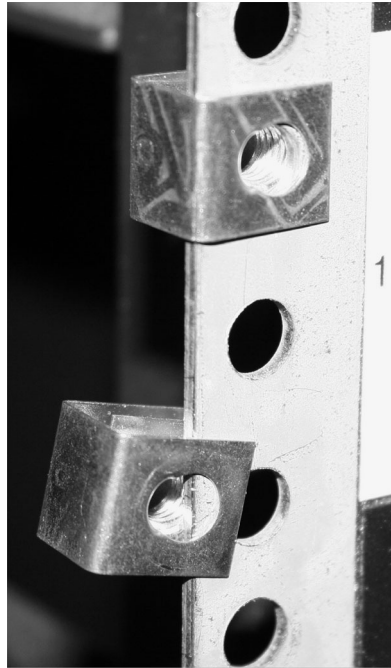

Figure 6. Positioning the clips
2. Position the four “C” clips in the rack's mounting bar, as shown in Figure 6 on page 15.